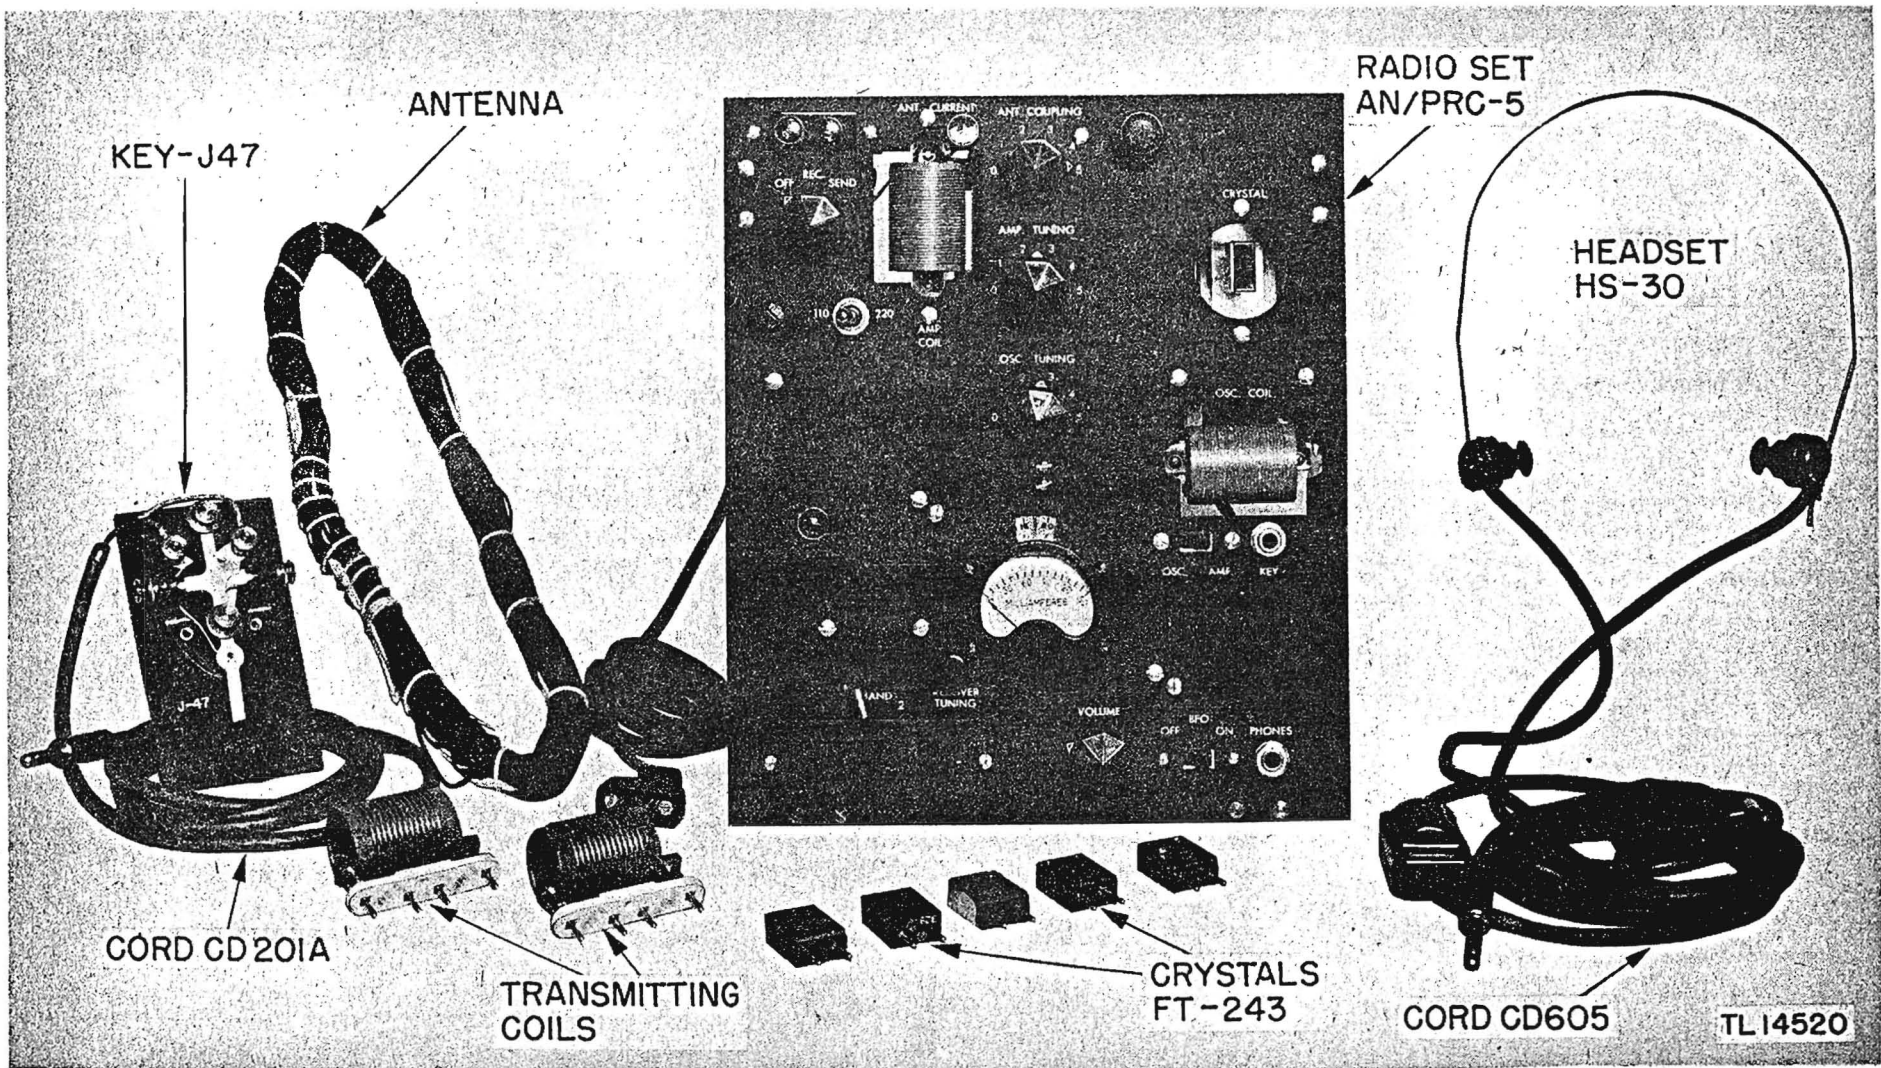

Figure 1. Radio Set AN/PRC-5, front panel and operating components.
- (1) 4,500 to 8,000 kilocycles.
- (2) 8,000 to 16,000 kilocycles.
5. SOURCE OF POWER (fig. 1). The equipment is designed for operation from a 110- or 220-volt, 50- to 60-cycle, single-phase source. The equipment is set for operation from a source of either voltage by manipulation of the switch marked 110-220, located near the FUSE receptacle in the upper left-hand corner of the transceiver unit.
7. TRANSCEIVER (fig. 1). The transmitter and the power supply form the upper half of the transceiver unit, and the receiver forms the lower half. All of the controls for the transceiver unit are mounted on a single panel covering the face of the unit (fig. 1).
9. HEADSET (fig. 1). Headset HS-30, furnished with the equipment, plugs into the PHONES jack on the transceiver unit by means of Plug PL-55 attached to the end of headset Cord CD-605. The 256-ohm primary winding of Transformer C-410 is connected to the headset, and the 8,000-ohm secondary winding is connected to the receiver output by means of the complete headset and cord assembly.
10. KEY (fig. 1). Key J-47, furnished with the equipment, plugs into the KEY jack on the transceiver unit by means of Plug PL-55 attached to the end of Cord CD-201-A.
14. CRYSTALS (fig. 1). A set of six crystals, mounted in FT-243 holders, are furnished with the equipment. These crystals permit fundamental frequency operation on the following frequencies: 4635; 5263; 5925; 6525; 7150; and 7825 kilocycles. The crystals also permit operation at the second harmonic frequencies of the crystals as follows: 9270; 10,526; 11,850; 13,050; 14,300; and 15,650 kilocycles.
15. TRANSMITTER PLUG-IN COILS (fig. 1). A set of four transmitter coil units is furnished with the equipment. These coils are wound on clear phenolic forms attached to a ceramic plug strip having four pin-type plugs. The coils plug into ceramic jack strips installed in the trans-